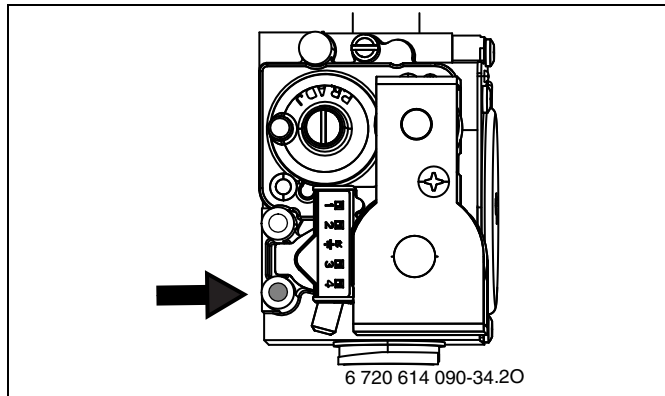

Fig. 65 Dynamic gas pressure test port
- ▶ Loosen the screw in the test port for gas inlet pressure (→ Fig. 42, [1]) and connect a pressure gauge (→ Fig. 65).